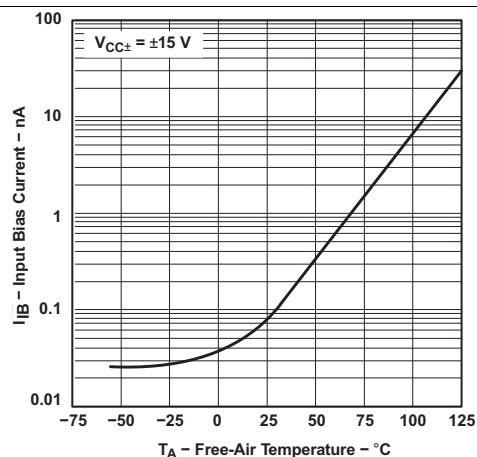

Figure 1. Input Bias Current vs Free-Air Temperature
- (1) All characteristics are measured under open-loop conditions with zero common-mode voltage, unless otherwise specified.
- (2) Full range is $T_A = 0^\circ C$ to $70^\circ C$ for TL07_C, TL07_AC, TL07_BC and is $T_A = -40^\circ C$ to $85^\circ C$ for TL07_I.
- (3) Input bias currents of an FET-input operational amplifier are normal junction reverse currents, which are temperature sensitive, as shown in Figure 1. Pulse techniques must be used that maintain the junction temperature as close to the ambient temperature as possible.
- Input bias currents of an FET-input operational amplifier are normal junction reverse currents, which are temperature sensitive, as shown in Figure 1. Pulse techniques must be used that will maintain the junction temperature as close to the ambient temperature as possible.